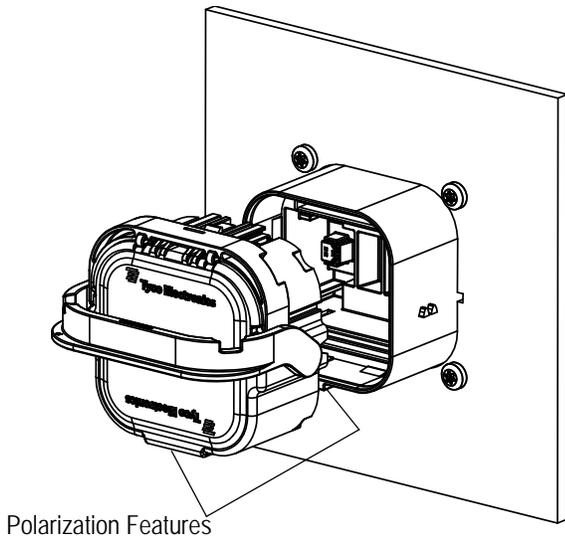

Figure 2
1. Identify the polarization features that are located on the walls of the MSD receptacle outer housing as shown in Figure 2.
2. Line up the polarization features on the MSD receptacle outer housing with the mating polarization slots on the plug assembly as shown in Figure 2.
4. Manually install the MSD plug assembly into the receptacle mounting interface, making sure that the polarization features are aligned correctly as shown in Figures 2 and 3. This is the pre-staged position, which flexes the passive latches of the lever release outwards so that the lever can be released from the pre-stage position. If the plug assembly and receptacle mounting interface do not fit together easily, check the following: